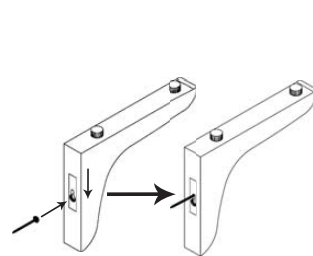

Figure 4
STEP 3: Place the Corbel over the screw and push it down to lock it into place. Ensure the Corbel is snug against the wall, if not remove and tighten screw. Repeat for each Corbel as shown in **Figure 4**.